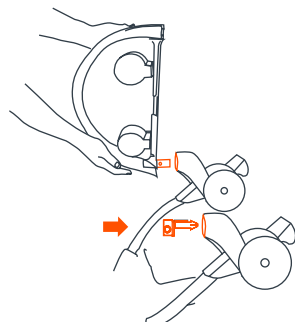
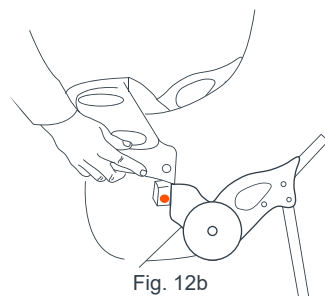

Fig. 12a
Fig. 12b
- 12) • To attach the child tray: Insert the tray clip into the fitting on the stroller's fold joint. Check the tray clip locks into place. (Fig. 12a) Push the angled tray onto the post at the end of the right armrest, while pressing downward on the snap button, until locked into place. Rotate the tray downward until latched onto the left armrest. Please check that the snap button comes through and securely latches the tray in place (Fig. 12b).